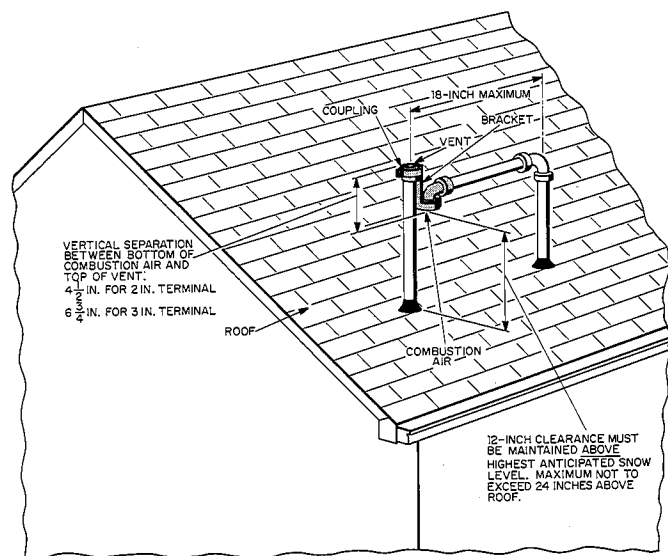

Fig. 2—Rooftop Termination
See Table 3 for maximum allowable pipe lengths and Figs. 2 through 7 for piping arrangements.
All combustion-air and vent pipes must be airtight and watertight. The pipes must also terminate exactly as shown in Figs. 2 through 7.
The combustion-air and vent pipes must terminate outside the structure. A factory-supplied termination kit must be installed as in one of the installations shown in Figs. 2 through 7. Roof termination is preferred. See Fig. 2. Two terminal kits are available. The 2-in. kit is for 1-1/2-in. and 2-in. diameter pipe systems. The 3-in. kit is for 2-1/2-in. and 3-in. diameter pipe systems. Each kit will have extra parts. See Figs. 2 through 7 for the different applications.
The shaded parts in Figs. 2 through 7 are provided in the termination kit; therefore, do not count them when determining the pipe diameter.
1. Rooftop terminal installation. See Figs. 2 and 3.
- c. Loosely install pipe coupling, provided in kit, on properly cut vent pipe. The position of the coupling must be so that the bracket will mount as shown in Fig. 2.
- e. Install bracket as shown in Fig. 2.